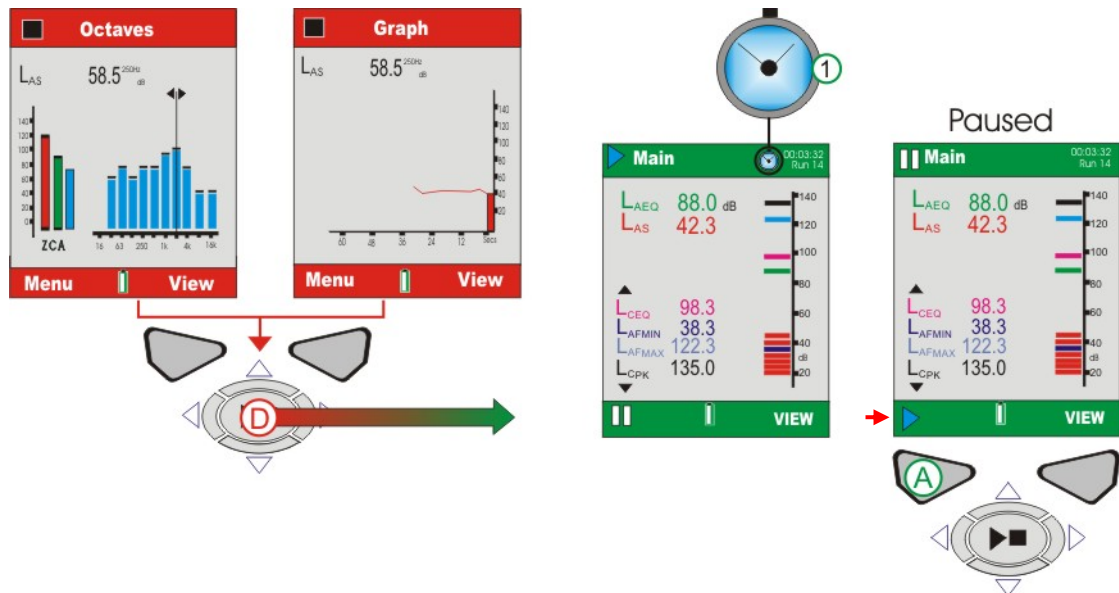

Figure 12 Run Screens
**J. RUN SCREENS (Refer to Figure 12)**